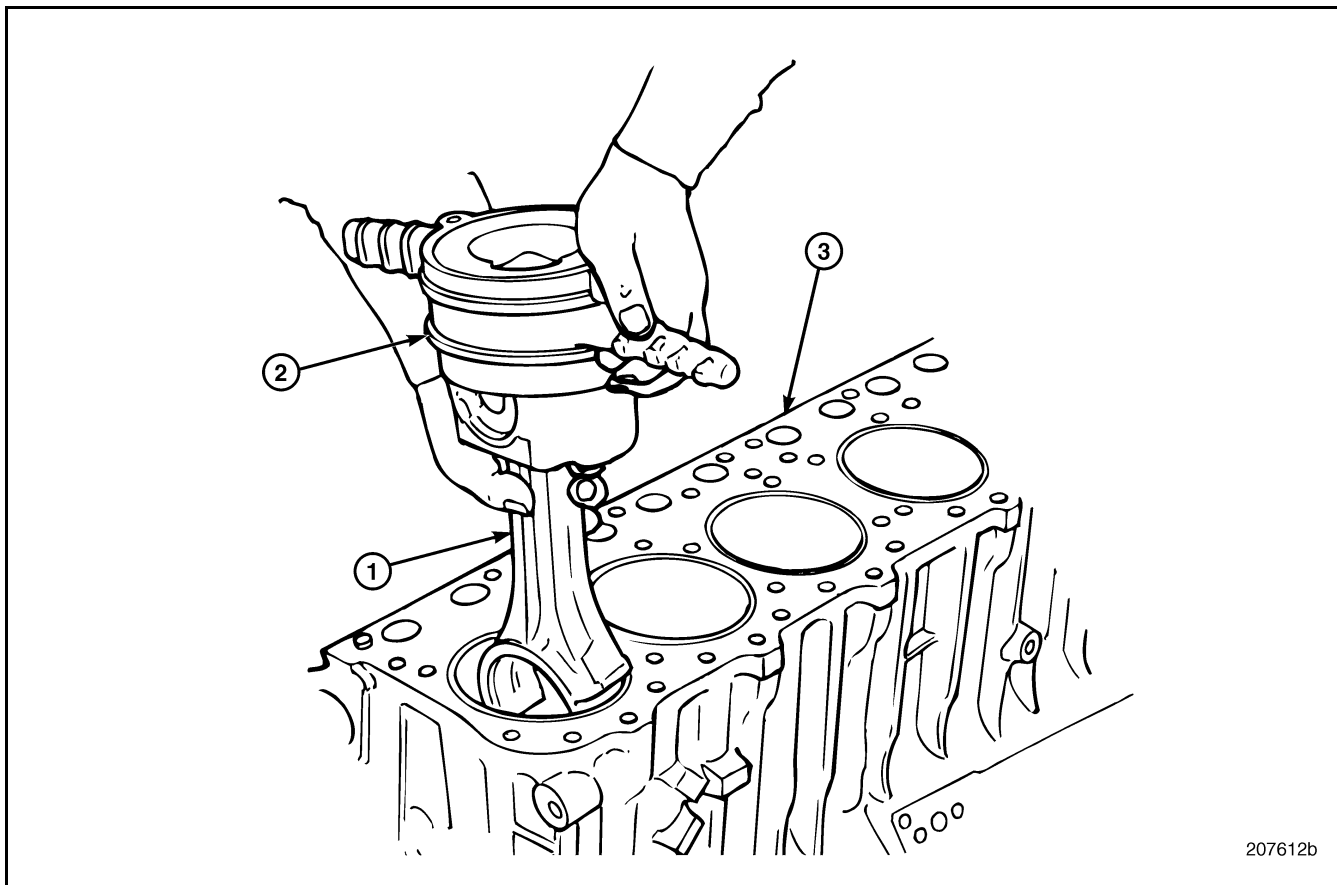

Figure 330 — Piston and Connecting Rod Installation
9. With the ring compressor in place, position the piston and rod assembly into the No. 1 cylinder as shown in Figure 330 until the compressor contacts the top of the sleeve. The arrow and word FRONT on both the piston crown and the connecting rod must be facing the front of the engine.